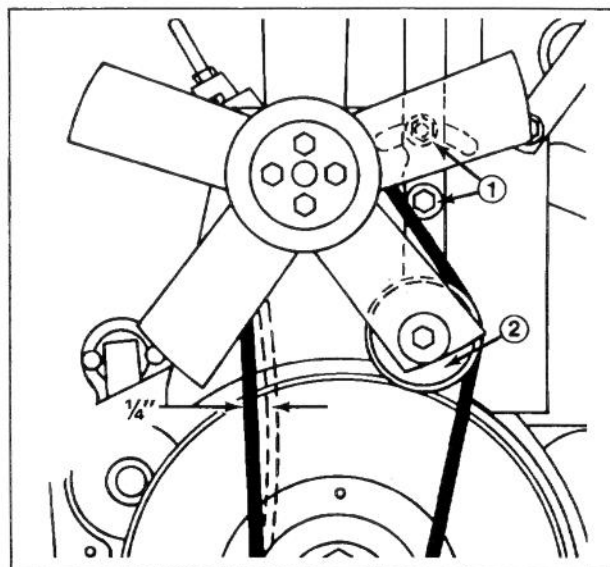

Figure 64
2. Belt should deflect 1/4 in. (6 mm) midway between the pulleys with 5 lbf (22 N) (Fig. 64). If deflector is incorrect, proceed to step 3. If correct, proceed to step 4.
3. Loosen two flange nuts securing idler pulley bracket (Fig. 64). Push idler against belt until proper deflection is achieved and tighten flange nuts (Fig. 64).
1. Loosen two flange nuts securing idler pulley bracket, slide pulley away from belt and remove belt from top and bottom pulleys (Fig. 64).
2. Install new belt and adjust for proper tension. Push idler pulley against belt until belt deflects 1/4 inch. (6 mm) with 5 lbf (22 N) midway between top and bottom pulleys (Fig. 64). Tighten flange nuts to secure idler pulley adjustment (Fig. 64).